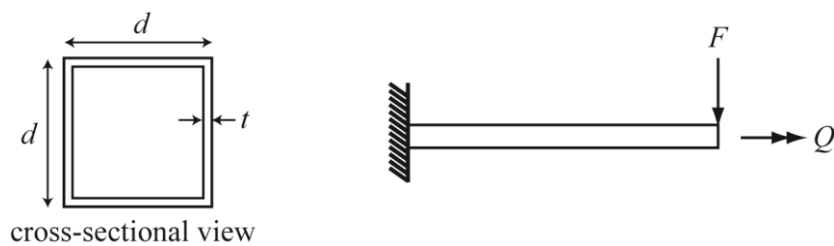

Fig. 2
- (e) Figure 2 illustrates a hollow square-section GFRP composite beam of uniform layup and wall thickness t . The side length d of the section, which can be assumed to be large compared with t , equals 100 mm. The beam of length 3 m is mounted as a cantilever, rigidly fixed to a wall. A transverse load $F = 30$ N and a torsional load $Q = 80$ N m are applied simultaneously to the free end of the cantilever. Use the carpet plots provided in Fig. 3 to select an appropriate ply mix and thickness for a laminate containing a mixture of 0° , 90° and $\pm 45^\circ$ plies which minimise the mass of the beam, while ensuring that the end deflection is less than 2 mm and the end rotation is less than 0.2° under the applied loading. [40%]